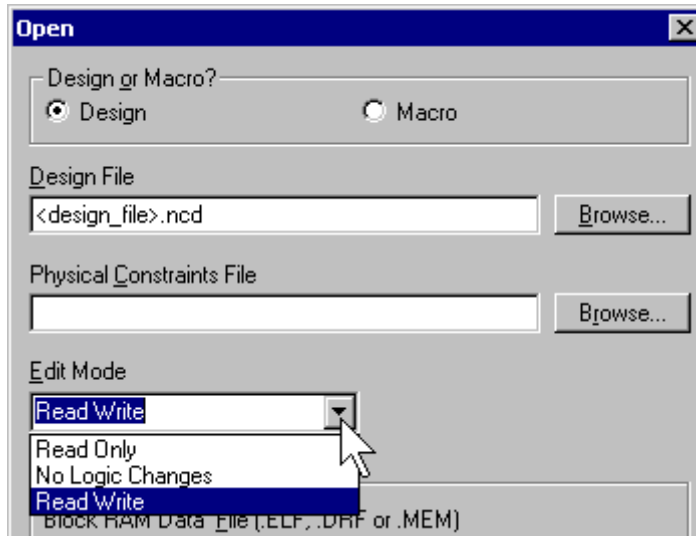

Figure 3: Enable User Editing in FPGA Editor
- Select **File** → **Open**. Select the *.ncd file for the completed design. Set the **Edit Mode** to "Read Write" mode as shown in Figure 3.